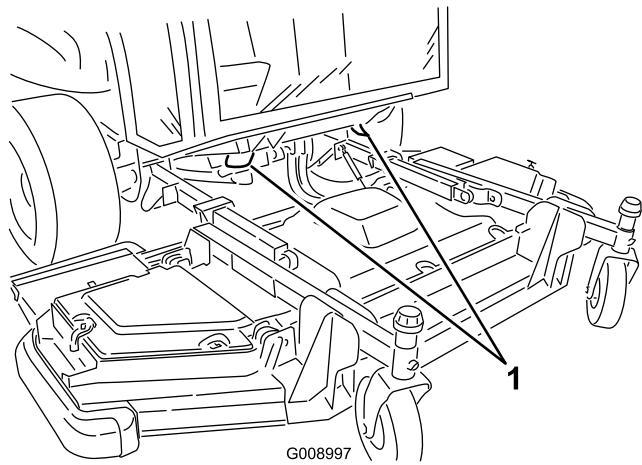

**Figure 39**
1. Front jacking point (2)
- On the rear of the machine at the center of the axle (Figure 39).